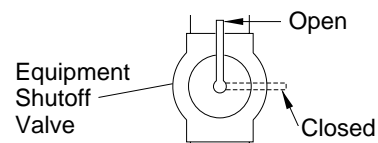

Figure 23- Equipment Shutoff Valve
1. Close equipment shutoff valve (see Figure 23).
1. Open equipment shutoff valve (see Figure 23).